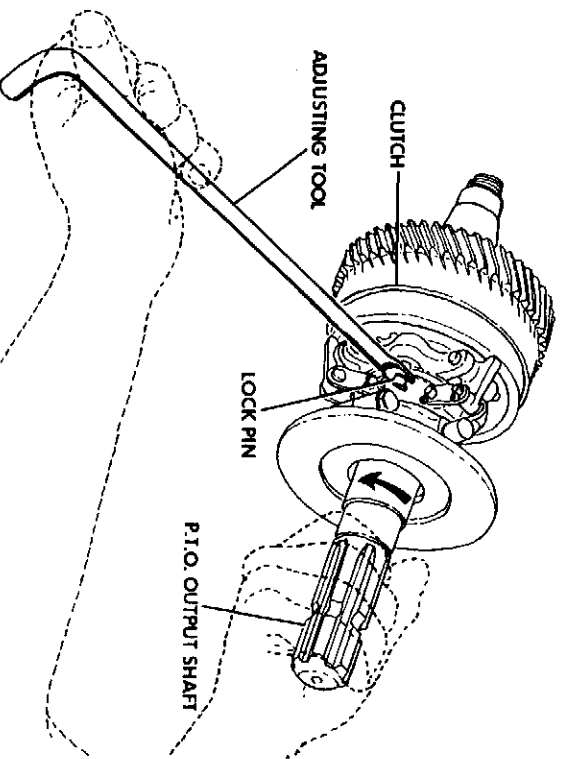

Figure 63
2. Remove the pipe plug from the PTO housing, Figure 63. Using flashlight, look through the hole and manually turn the PTO shaft until the 2 spring loaded lock pins are visible. You will note that one pin is engaged in the "in" position while the other is disengaged.
3. Insert the adjusting tool through the hole as shown and pull the engaged lock pin out with the forked end of the tool, Figure 63.